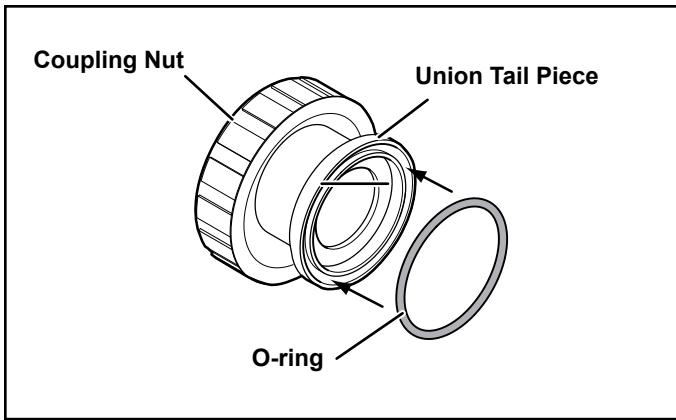

Figure 2. O-ring Placement
4. Remove the two (2) O-rings from packaging.
5. Place O-rings on the face of the union tail pieces, where the face of the NeverLube backwash valve union will connect to the filter bulkheads. See Figure 2. Make sure each O-ring is properly seated into the groove of each union tail piece.